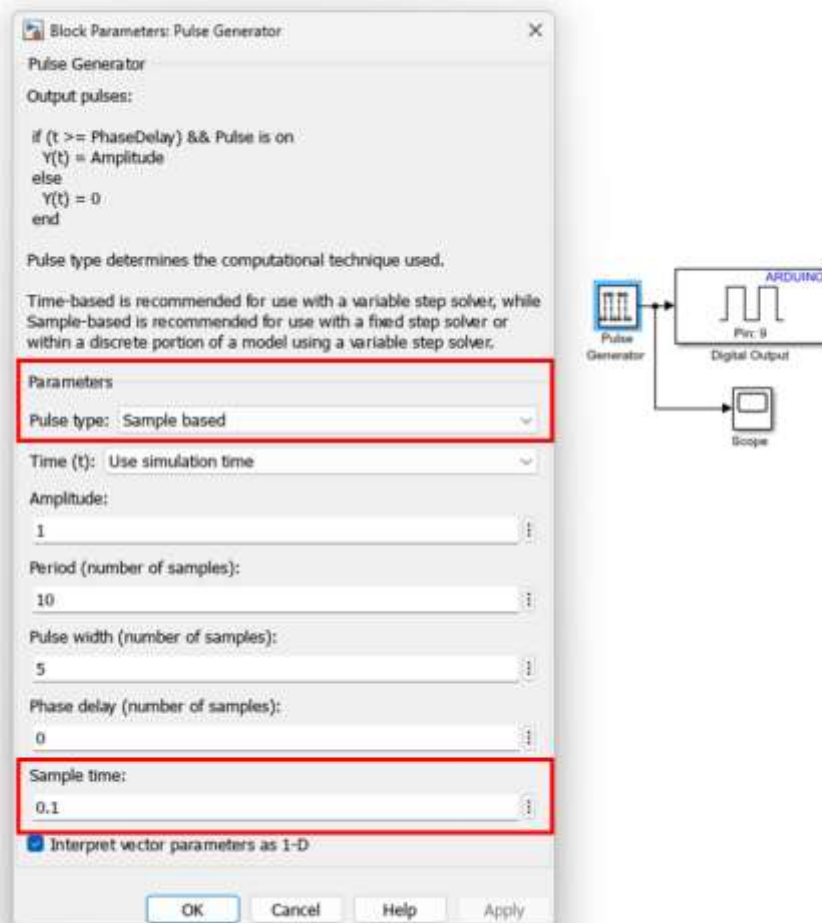

Figure 2: Simulink Set-Up for LED (Digital Exercise)
In this part of the exercise, you will develop a Simulink model to control the Arduino digital output pin and turn the LED ON and OFF. A **Pulse Generator** block is used to alternate the output between **0 (OFF)** and **255 (ON)**, as shown in **Figure 2**.